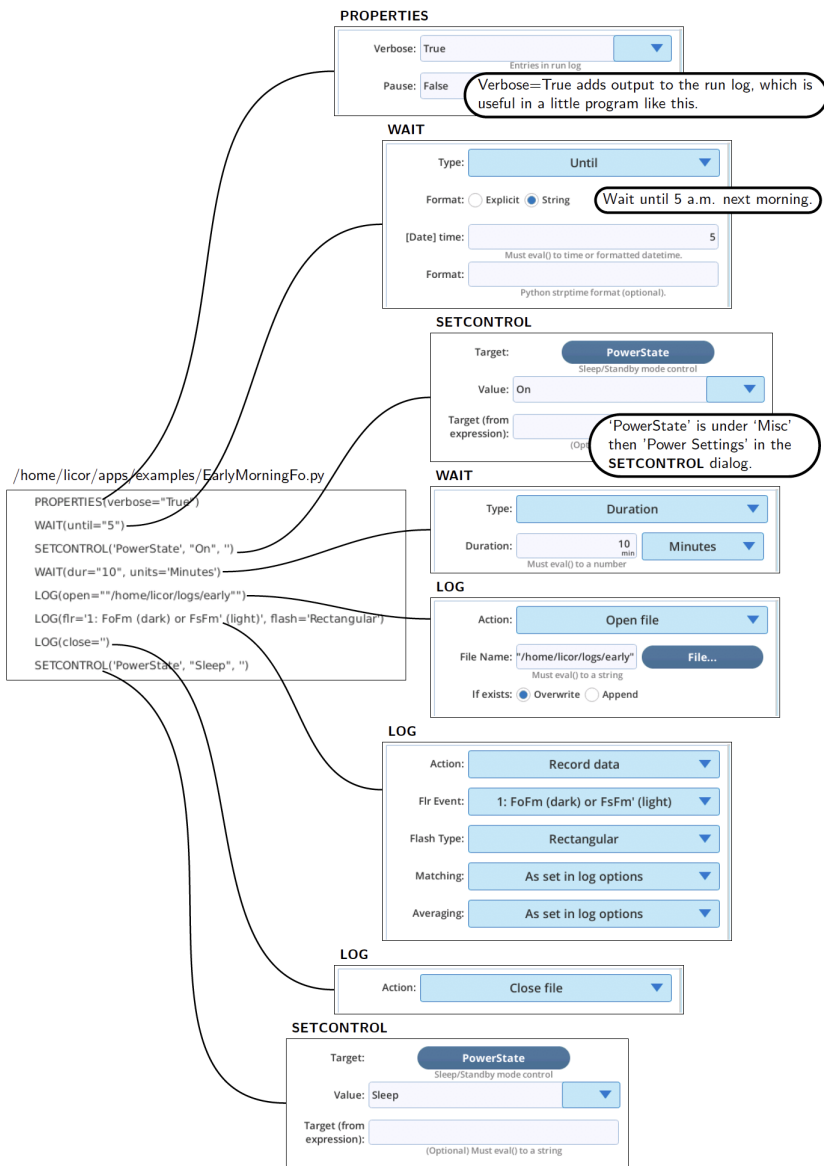

Figure 3-2. How each step is to be configured for the early morning FoFm example.
- 5 Tap on the **Set** tab, and configure each step according to *Figure 3-2* on the facing page.